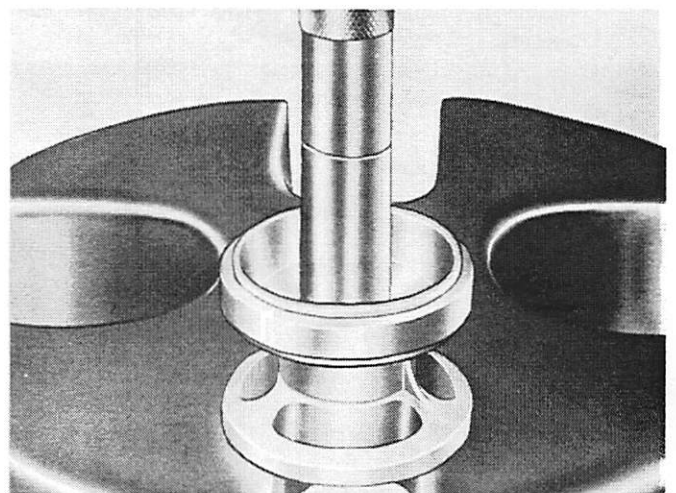

Figure 4. Pressing Bearings Out of Carrier
11. Press roller bearing and seal from carrier assembly on arbor with Bearing Mandrel (C-91-24273). (Figure 4)